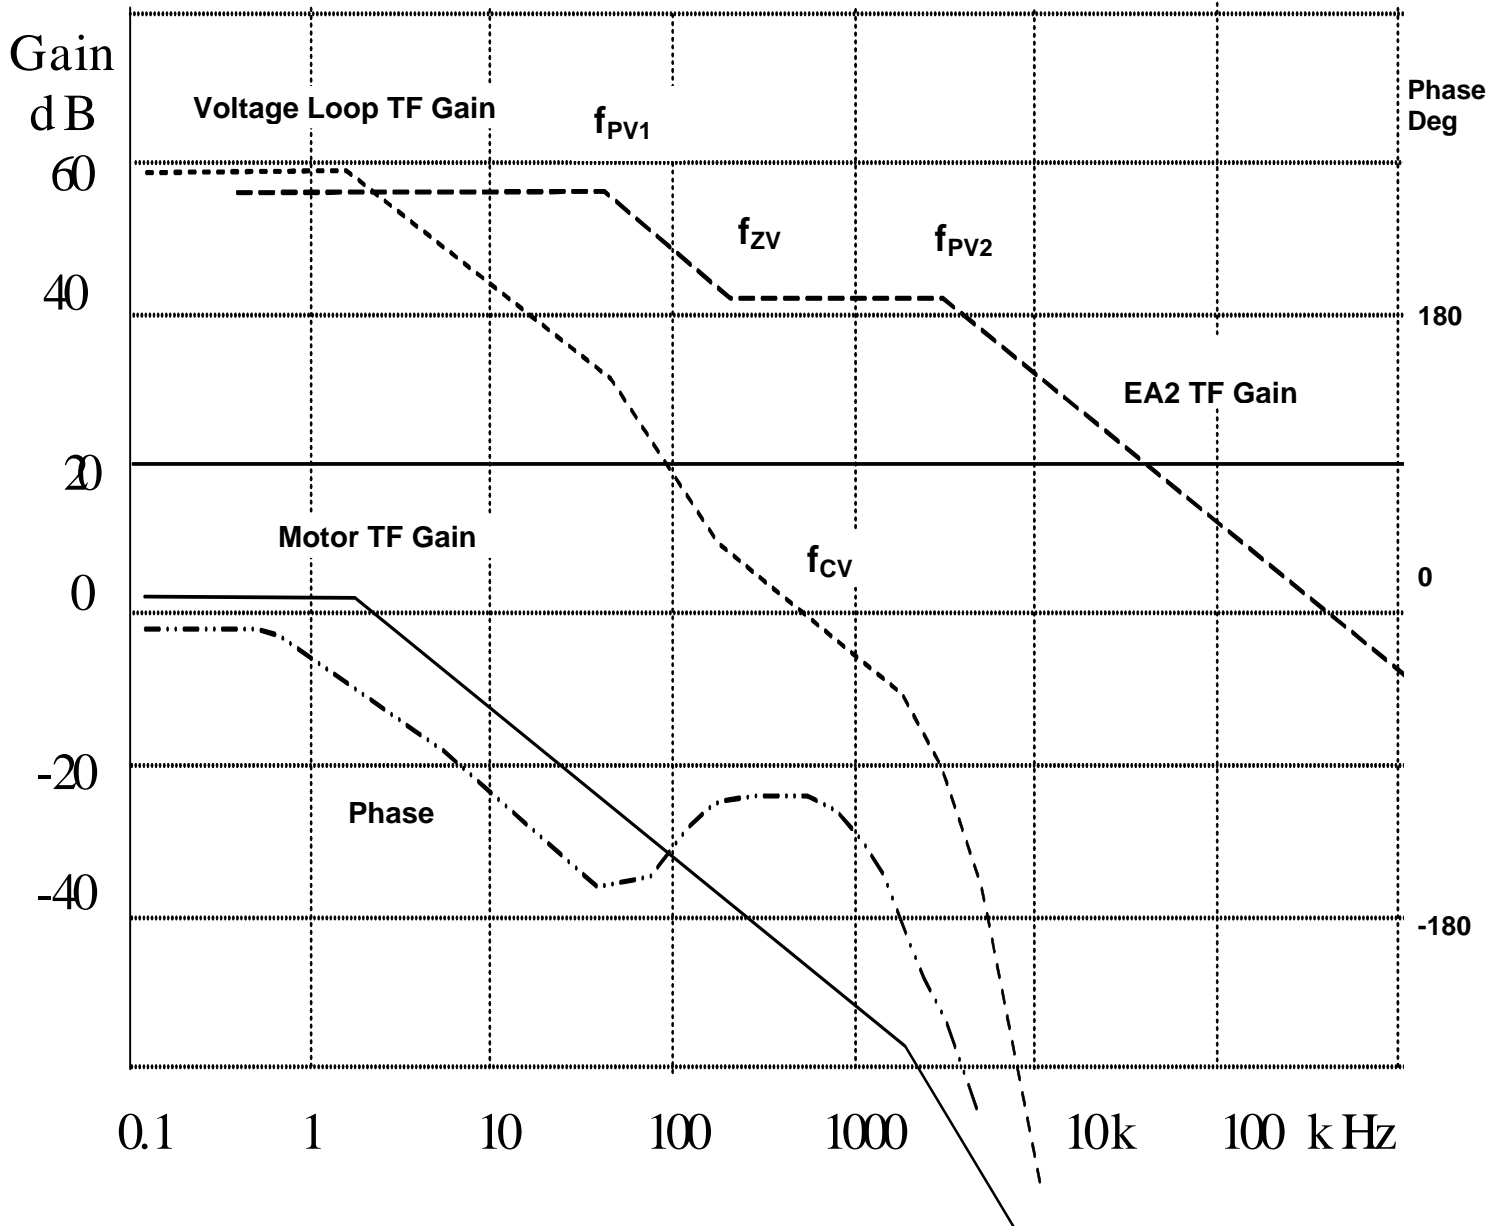

Fig. 17: Voltage Loop Open Loop Gain & Phase versus Frequency
The voltage loop error amplifier EA2 transfer function Bode plot is shown in Fig. 17.
- The speed loop error amplifier gain is described in equation 48, and the motor mechanical power circuit gain is described in equation 59. The overall open loop gain of the speed loop is the product of the speed loop error amplifier gain and motor mechanical power circuit gain. The EA2 gain in the flat portion of Fig 17 is described by equations 54 and 55. The loop gain crossover frequency, f_{cv} , should be within the flat portion of the EA2 gain in order to achieve enough phase margin.